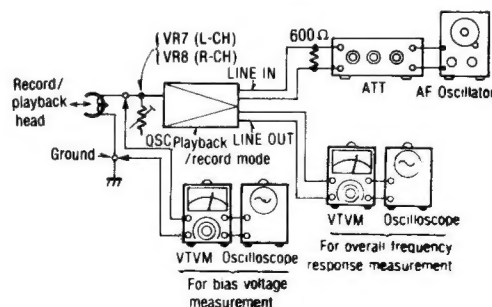

Fig. 11
1. Make connections as shown in fig. 11.